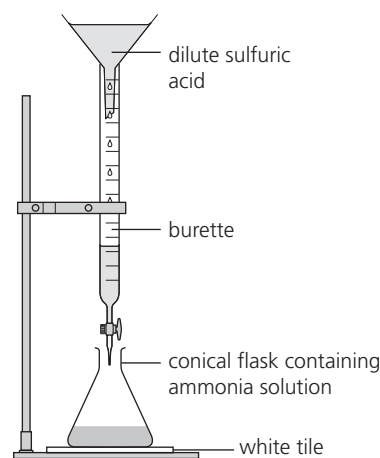

Figure 1
- 3 Clamp a burette vertically as shown in Figure 1. Use a filter funnel to fill it with  $0.05 \text{ mol/dm}^3$  solution of sulfuric acid exactly to the zero mark.